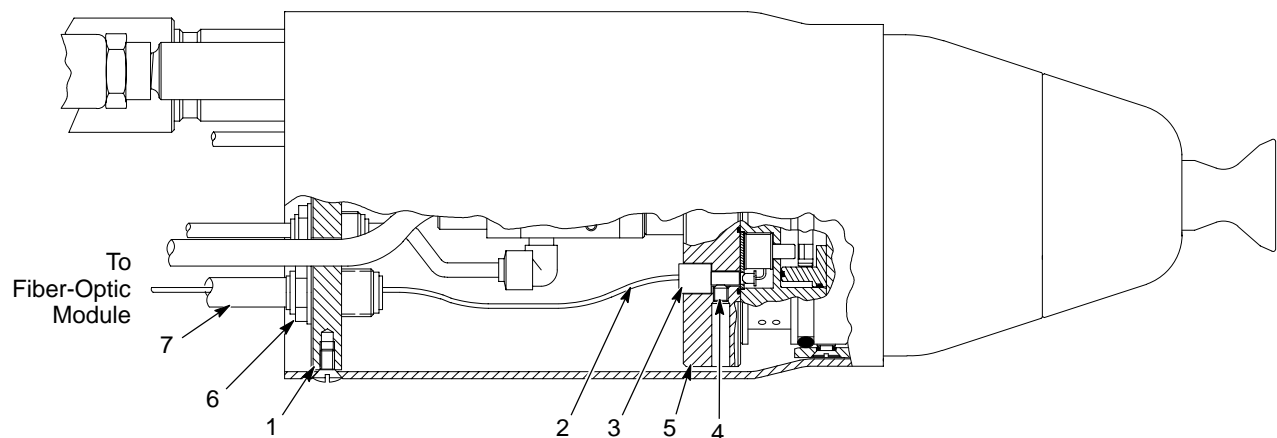

Figure 3-6 Fiber Optic Cable Installation - Rotary Atomizer
2. See Figure 3-6. Loosen the set screw (4) and remove the plug from the mounting hole on the interface plate (5).
3. Route $\frac{3}{8}$ in. air tubing (7) between the fiber-optic module and the rotary atomizer to protect the fiber-optic cable.
4. Push the fiber-optic cable (2) through the tubing. You may need to coat the cable with baby powder to get it through the tubing.
5. Guide the end of the fiber-optic cable through the $\frac{3}{8}$ in. bulkhead union (6) included with the cable kit.
6. Route the end of the fiber-optic cable through the threaded hole in the atomizer rear mounting plate (1) labeled SPEED CABLE, then thread the bulkhead union into the hole and plug the tubing into the union.
7. Install the cable ferrule (3) on the end of the cable, then insert the ferrule into the mounting hole in the interface plate (5).
8. Tighten the set screw (4) to secure the ferrule.